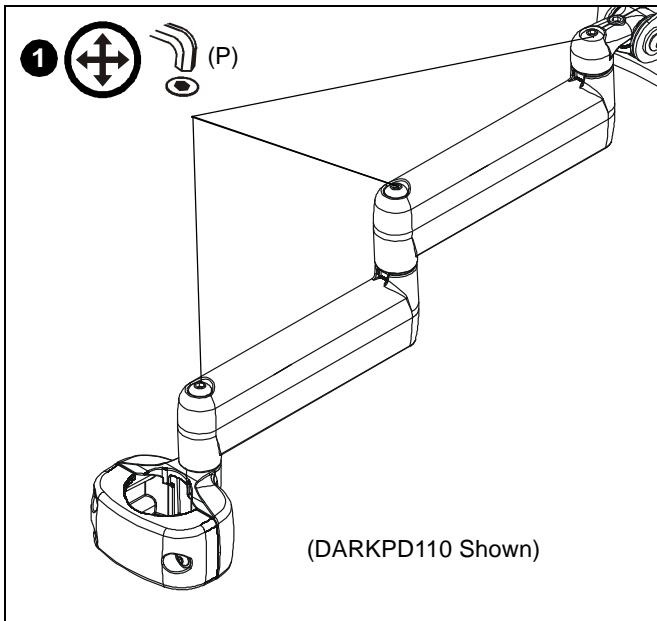

Figure 8
1. To adjust pivot tension, slightly loosen or tighten adjustment screw(s) using hex key (P) (See Figure 8). Adjust screw(s) ONLY as required to achieve desired tension.